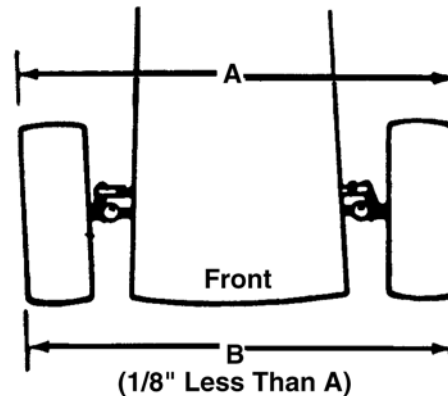

Figure 4-39. Units With Adjustable Tie Rods
- C.) Reassemble tie rod. Check dimensions. Readjust if necessary. See Figure 4-39.